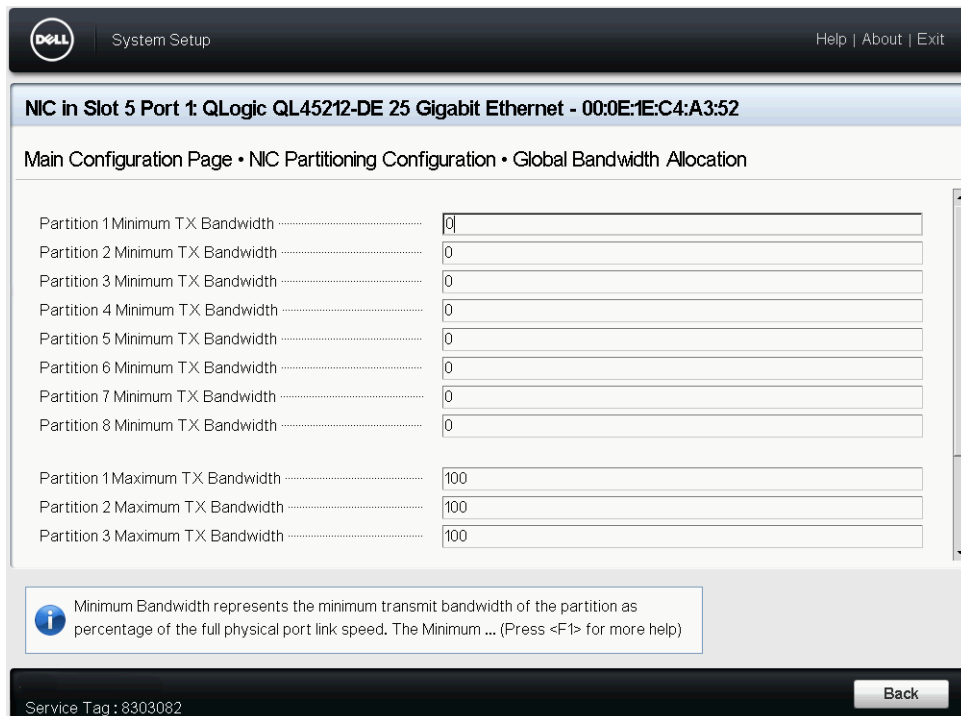

Figure 5-12. Global Bandwidth Allocation Page: NPAREP Mode Enabled
3. On the Global Bandwidth Allocation page (Figure 5-12), click each partition minimum and maximum TX bandwidth field for which you want to allocate bandwidth. There are four partitions per port if NPAREP mode is disabled and eight partitions per port if NPAREP mode is enabled. NPAREP mode requires that ARI be enabled in the BIOS for that adapter's PCI slot.